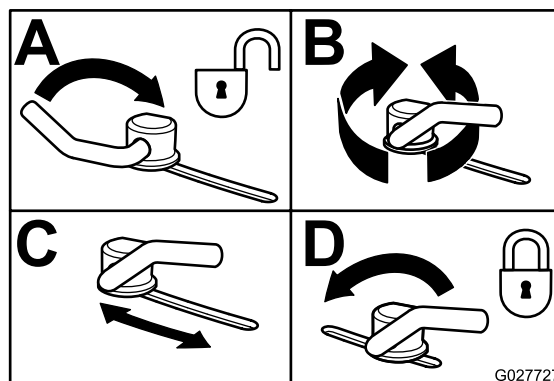

Figure 29
3. To adjust the cam locks, swing the lever up to loosen the cam lock (Figure 29).
5. Swing the lever back over to tighten the baffle and cam locks (Figure 29).